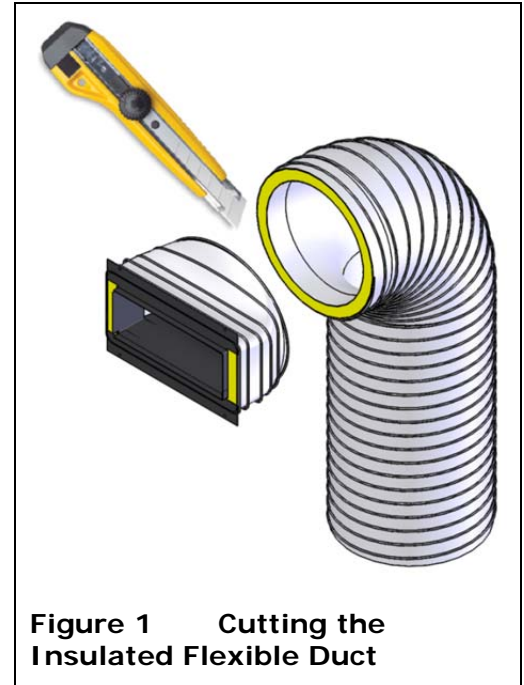

Figure 1 Cutting the Insulated Flexible Duct
1. Locate the two 10" diameter flexible ducts provided with the Linear 50 Fireplace. Cut off the rectangular portion of the duct so that the round adapters provided with the 8' ceiling kit will fit (see Figure 1).